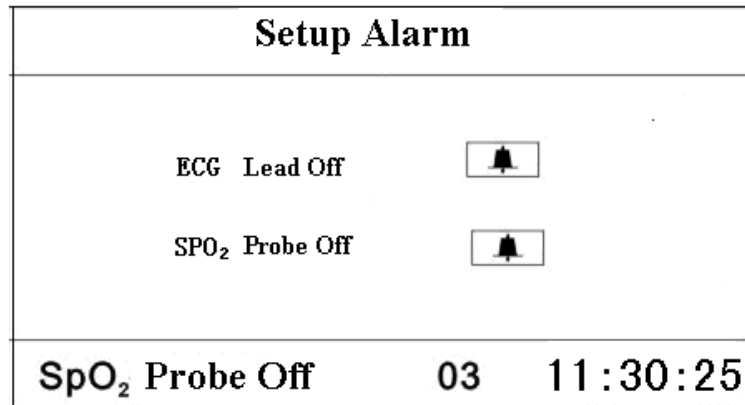

Figure 4.3 Alarm setup shortcut screen
- ◇ “” key: short press this key (about 1 second) to turn on or turn off the alarm sound temporarily; Long time press it to enter into the alarm setup shortcut menu as shown in figure 4.3. If not turn off “ECG Lead off” and “SpO₂ Probe off” manually after alarm lasts for 5 minutes, system will resume alarm silence status.